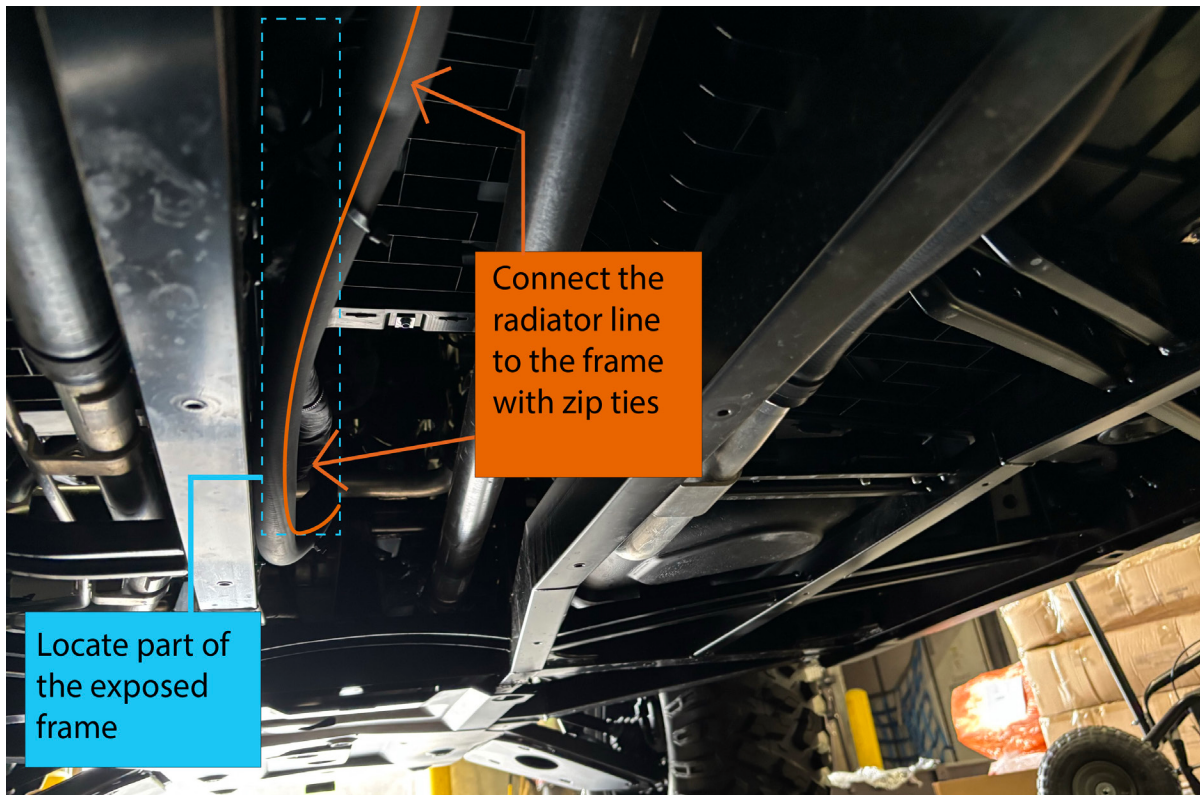

FIGURE 8
32. Secure the radiator line to the frame in the drive shaft tunnel with zip ties. FIGURE 8